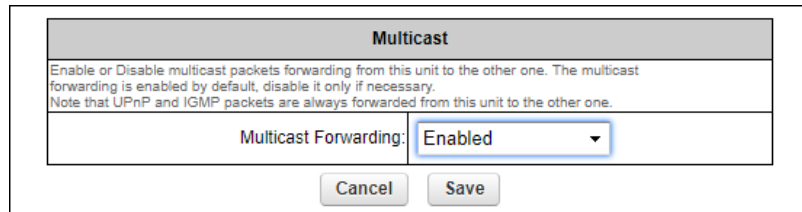

Figure 38. Multicast dialog (Bridge mode)
2. Click the **-multicast** link under **ADVANCED SETTINGS** in the left-hand settings menu (Figure 38 \(page 103\)).